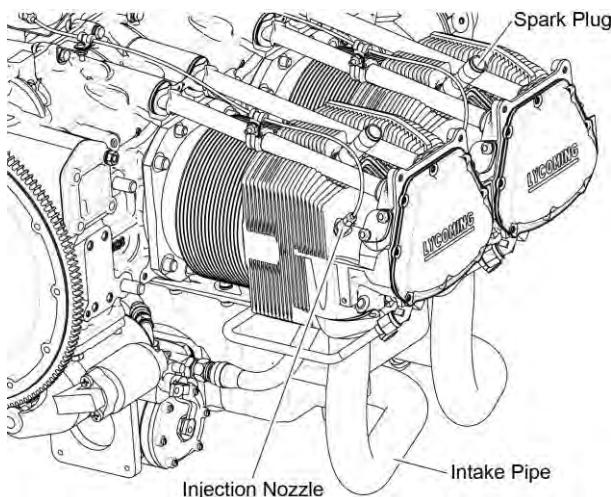

Figure 1
- Install all Bolts A and B with plain washers and new lock washers (Figure 1). Torque the hardware per the latest revision of the *Service Table of Limits - SSP-1776*.
- Remove the clamps that attach the fuel line to the shroud tube, disconnect the fuel line from the injection nozzle (Figure 1), remove the injection nozzle from the cylinder, and reconnect the removed injection nozzle to the fuel line.